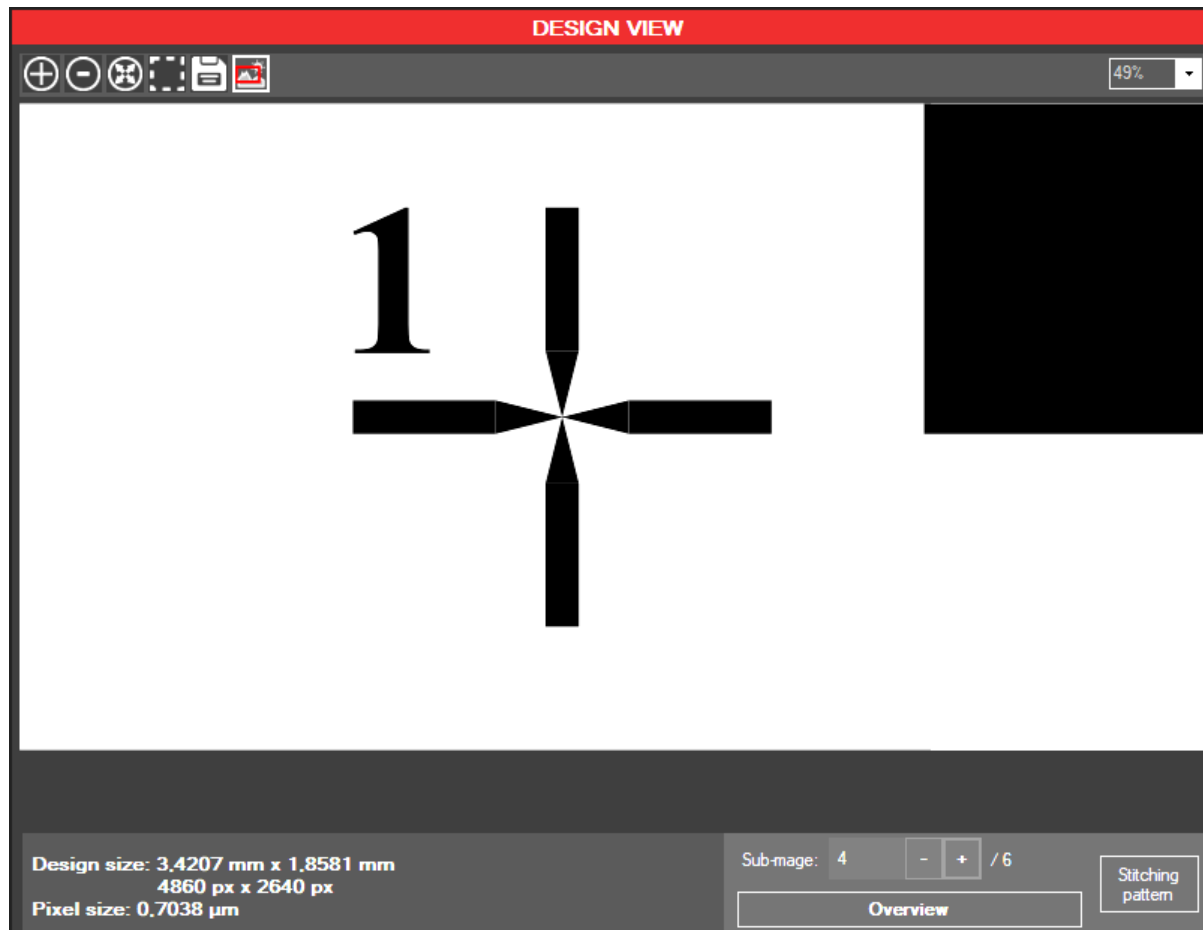

Figure 61 - Semi-auto alignment: defining point P1
- Selection of point P1 (Figure 58c): click on the **Overlay pos. P1** button. The mouse cursor will change to a cross. On the **IMAGE VIEWER** panel, select the point you want to align with P1' as shown in Figure 61.